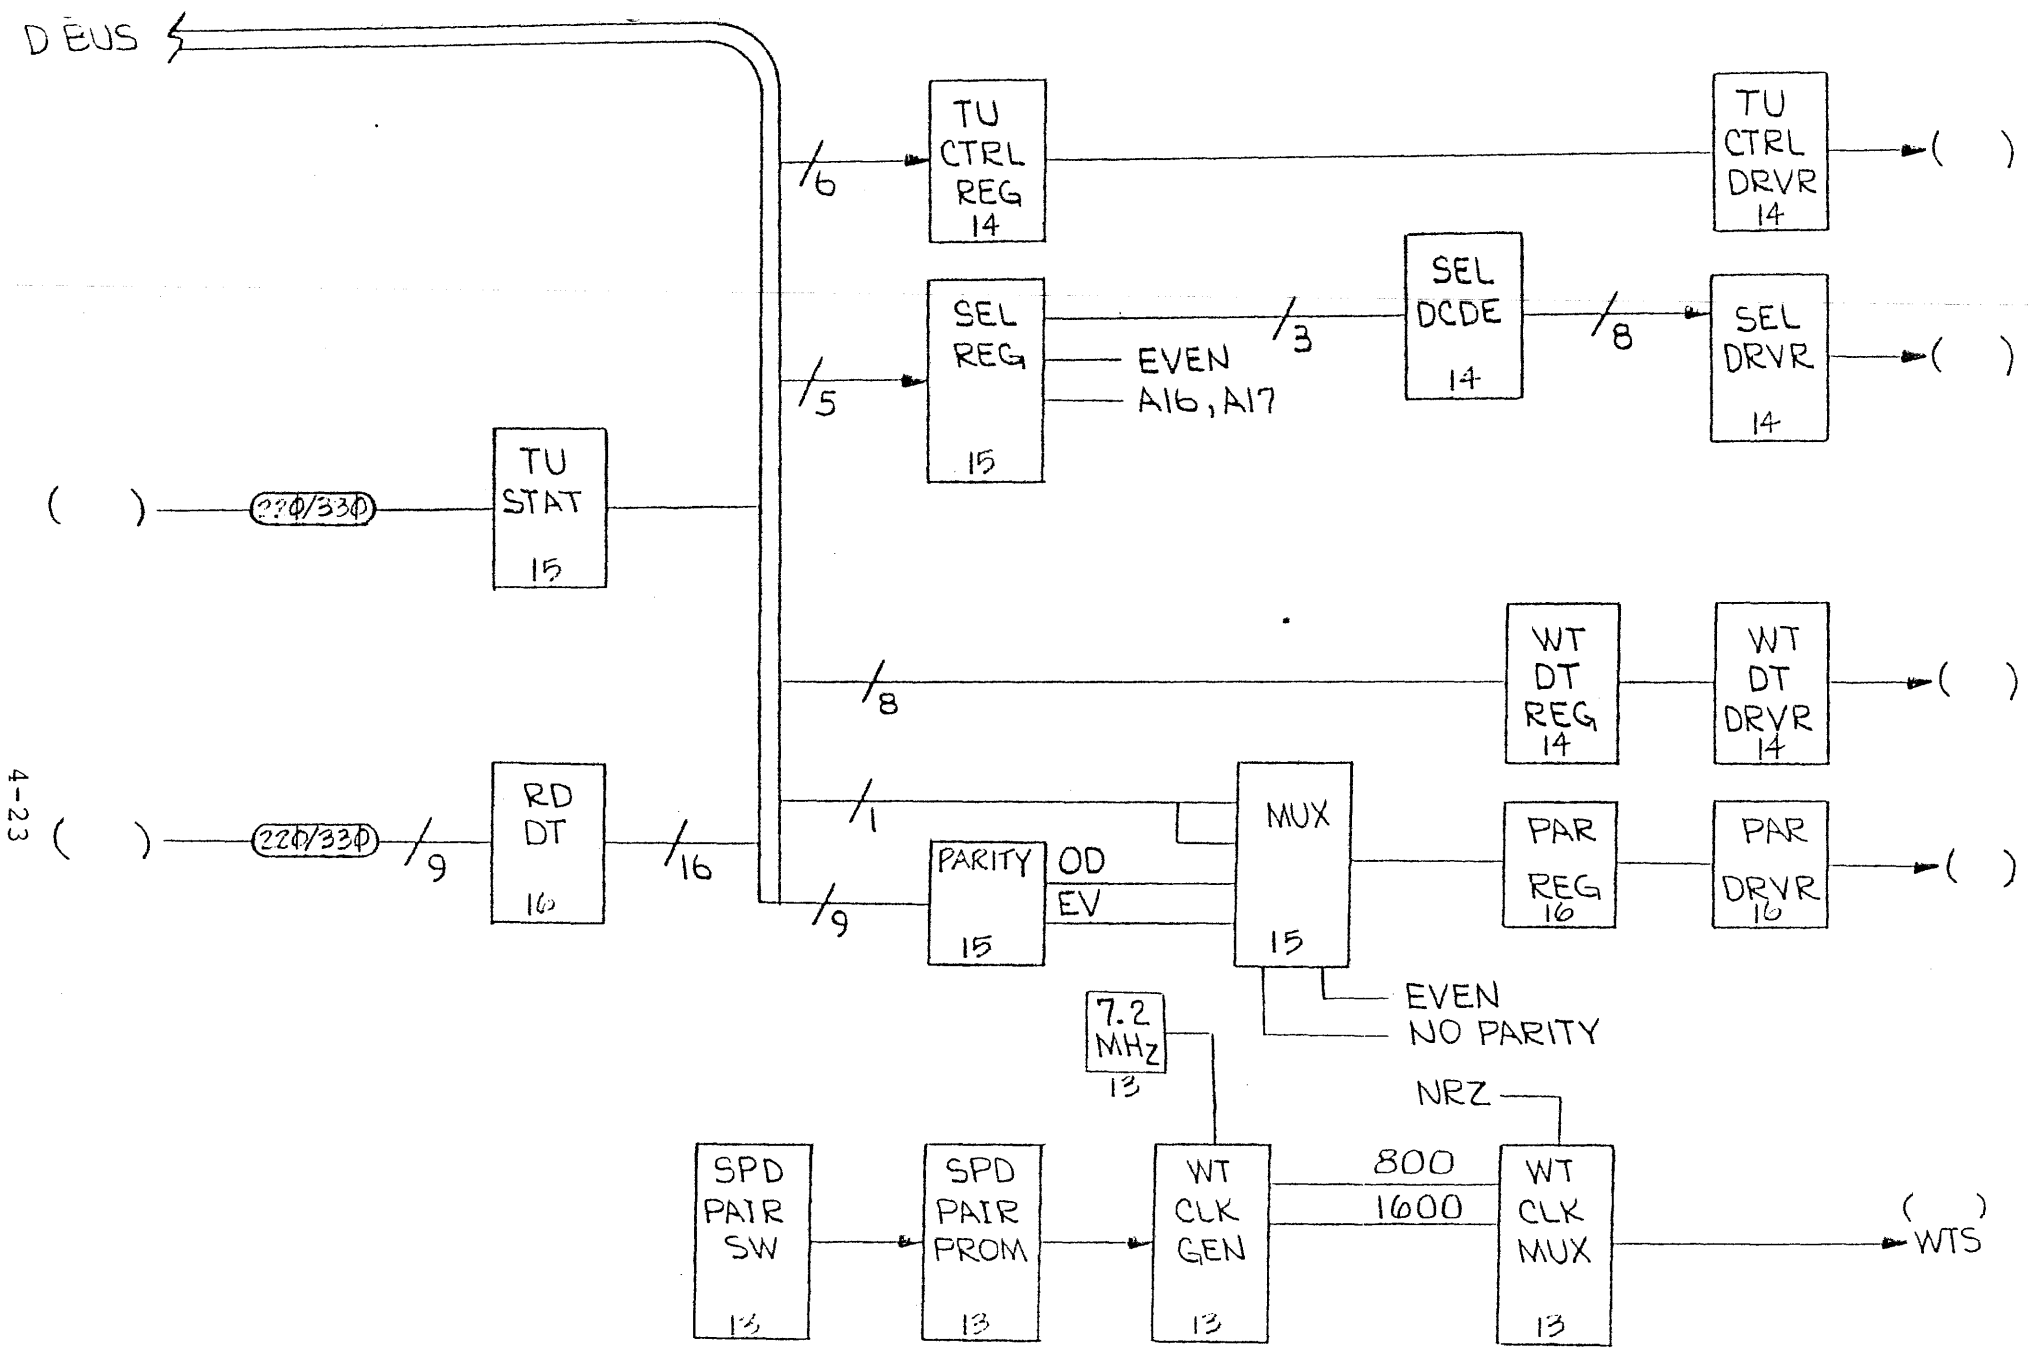

FIGURE 4-14 TAPE UNIT CONTROL
4.30 The Tape Drive Interface consists of all logic directly associated with controlling the tape units excluding the PE Data recovery logic. Refer to Figure 4.14 for a block diagram of this section. All tape motion is controlled by the microprogram loading the tape unit command register. Another microprogram loadable register drives a decoder to generate the eight unit select lines. The write data register is a 9 Bit microprogram loadable register. The first 8 Bits correspond to the data byte and the ninth bit is the vertical parity bit. The parity bit is loaded when the write data register is loaded and is generated by a parity generator monitoring the nine LSB's of the DBUS. The microprogram has the control to load the parity register directly from the DBUS for writing characters which do not require parity (e.g. CRCC, EOF, PE preamble, etc.).